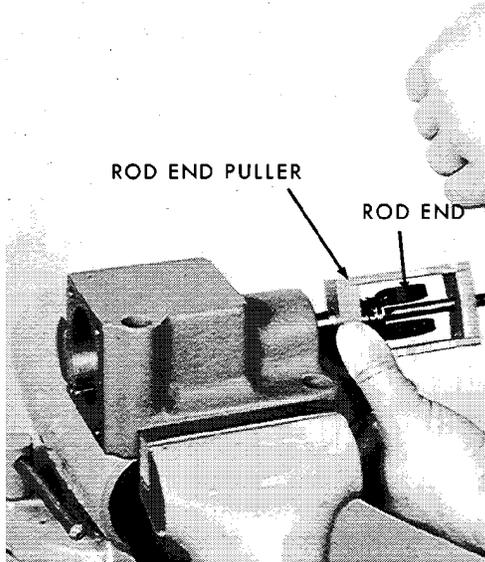

Figure 3-2
- b. Use a rod end puller tool (Woodward tool 012281) to remove fuel rod end (5). See Figure 3-2 for use of the puller.